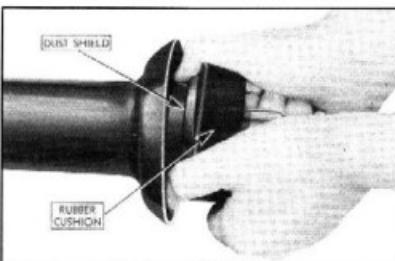

Fig. 33—Removing or Replacing Bearing Rubber Cushion
- After the support bracket has been removed, the rubber cushion can be removed from the bearinging with the hands as shown in Fig. 33.
- Install the rubber cushion over the bearing as shown in Fig. 33.